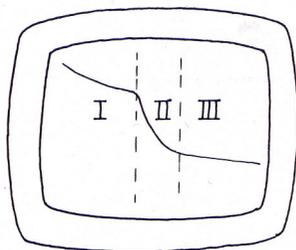

Figure 24.1
2. Study your graphs. They should look something like Figure 24.1. Draw vertical dashed lines to break your graphs into three distinct regions.